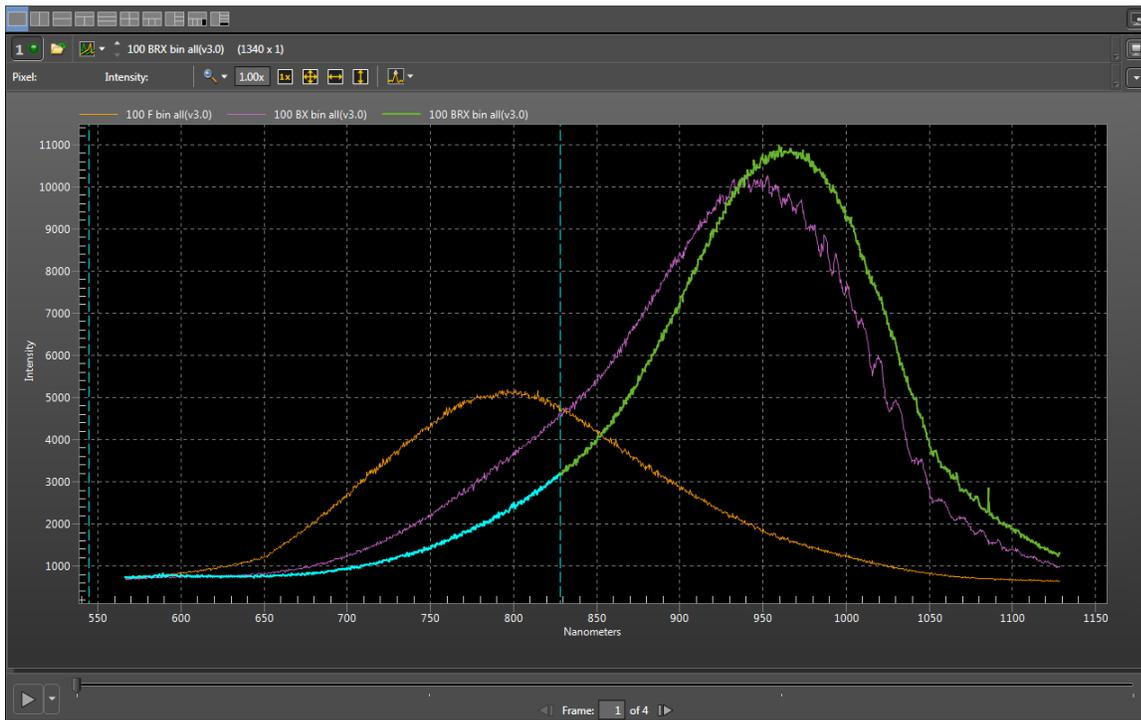

Figure 8. Emission spectra of a QTH lamp measured with three different CCD cameras.
A. Suppose that you measure the output of a QTH (Quartz Tungsten Halogen) lamp with three different CCD cameras. Each detector has its own spectral response, termed the Quantum Efficiency or QE. The measured spectral intensity is modified by the product of each of the elements in the optical path. If the three cameras have QE peaks in different regions of the spectrum, so will your recorded spectra (Figure 8).